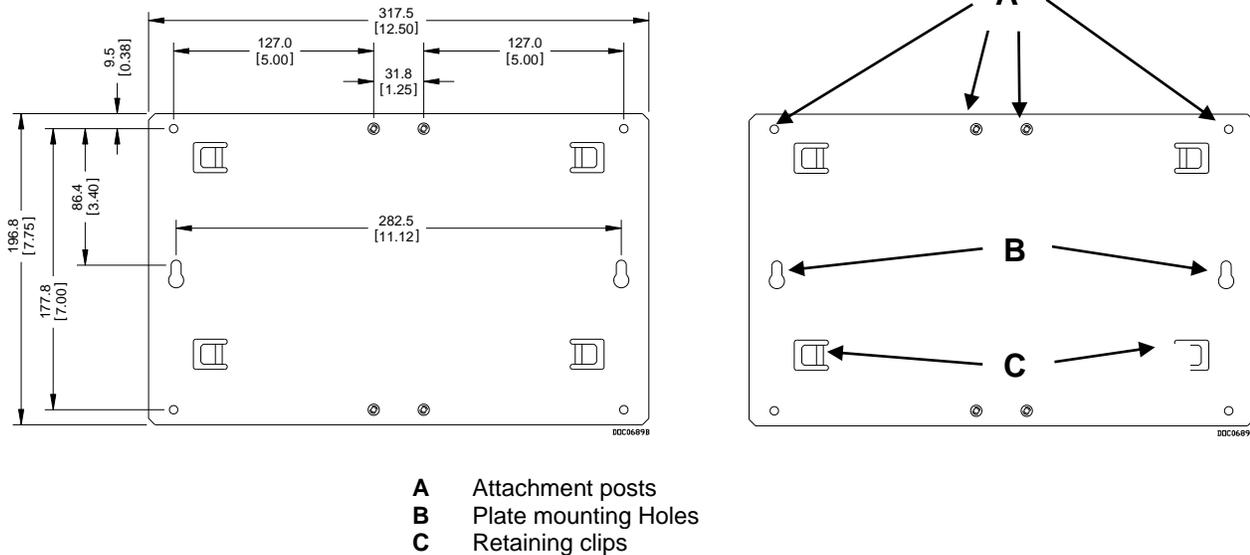

Figure 2-5. Adapter Plate (FB107 Expansion Rack)
3. Using the four holes on the expansion rack, mark the points at which the expansion rack should attach to the wall. Refer to *Figure 2-5*.